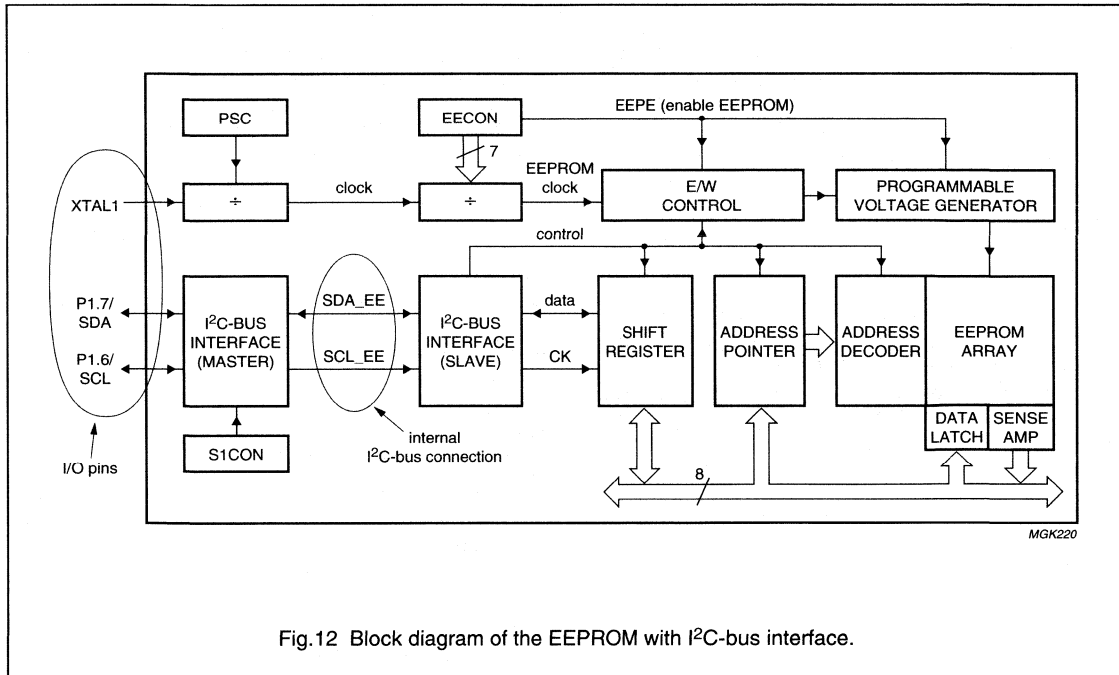
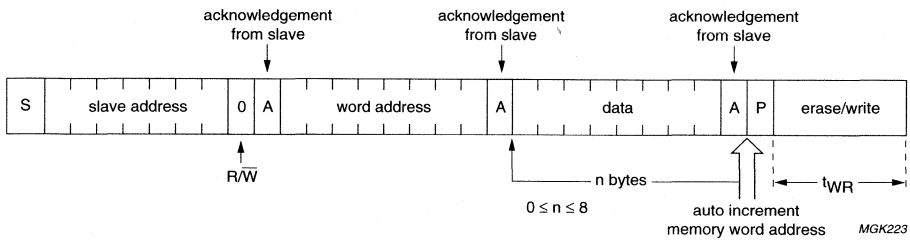

Fig.12 Block diagram of the EEPROM with I²C-bus interface.
Fig.15 Master transmits to slave receiver (Write mode).
After addressing the EEPROM with the $\overline{R/\overline{W}}$ bit set to a logic 0, the EEPROM responds with an acknowledge and expects to receive a word address, followed by a byte of data to be written. In the case of a 512-byte EEPROM, the bit before $\overline{R/\overline{W}}$ is the MSB of the word address of the byte to be written (A8). The master then sends the word address (A0 to A7), to which the EEPROM sends an acknowledge (A). Finally the master sends the data to be written, acknowledged by the EEPROM. The master sends a Stop condition (P) to start an Erase/Write cycle. The cycle takes typically 10 ms and is controlled by the E/W control circuitry (see Fig. 12). The byte write sequence is shown in Fig. 15, for the case $n = 1$.
Then the first data byte is sent, and instead of immediately generating a Stop condition, the master sends up to 7 additional bytes; the 3 lowest bits of the address are automatically incremented, the highest bits remain fixed. The EEPROM acknowledges each data byte. Finally a Stop (P) is generated to start an Erase/Write cycle. This sequence is shown Fig. 15.
- Abort the write procedure, by sending a Start (S) and repeating the complete page-write procedure of Fig. 15
- Start and Erase/Write cycle by generating a Stop (P). The first 8 bytes transmitted will be written into the EEPROM cells.
To achieve these programming times, the E/W control circuit requires a clock (EEPROM clock, see Fig.12) with a frequency between 51 and 63.75 kHz (max.). Frequencies lower than 51 kHz are acceptable, but result in a programming time greater than 10 ms. The frequency of XTAL is divided by the contents of the PSC register to define the internal clock frequency. This clock is then divided by the contents of the EEC0 to EEC6 bits to generate the 51 kHz EEPROM clock. The Erase and Write times are obtained by further dividing this clock by 255.